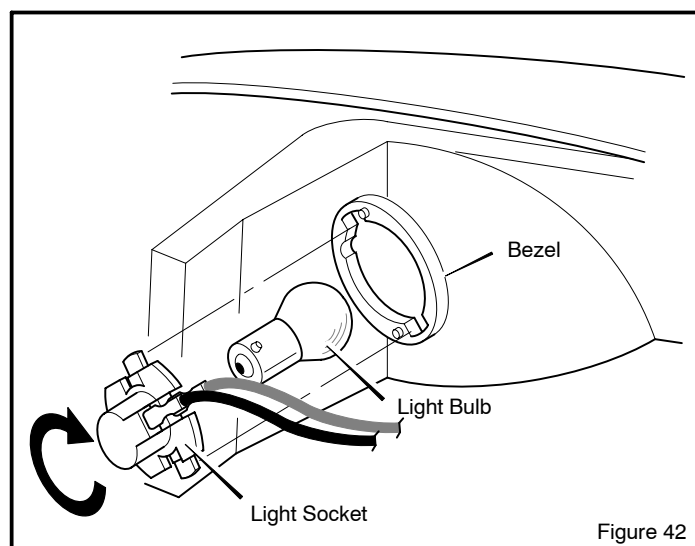

Figure 42
2. Turn the **light socket** until the tabs on the socket align with the notches in the **bezel** (Figure 42). Remove the **light socket**. Turn the **light bulb** and remove the bulb.